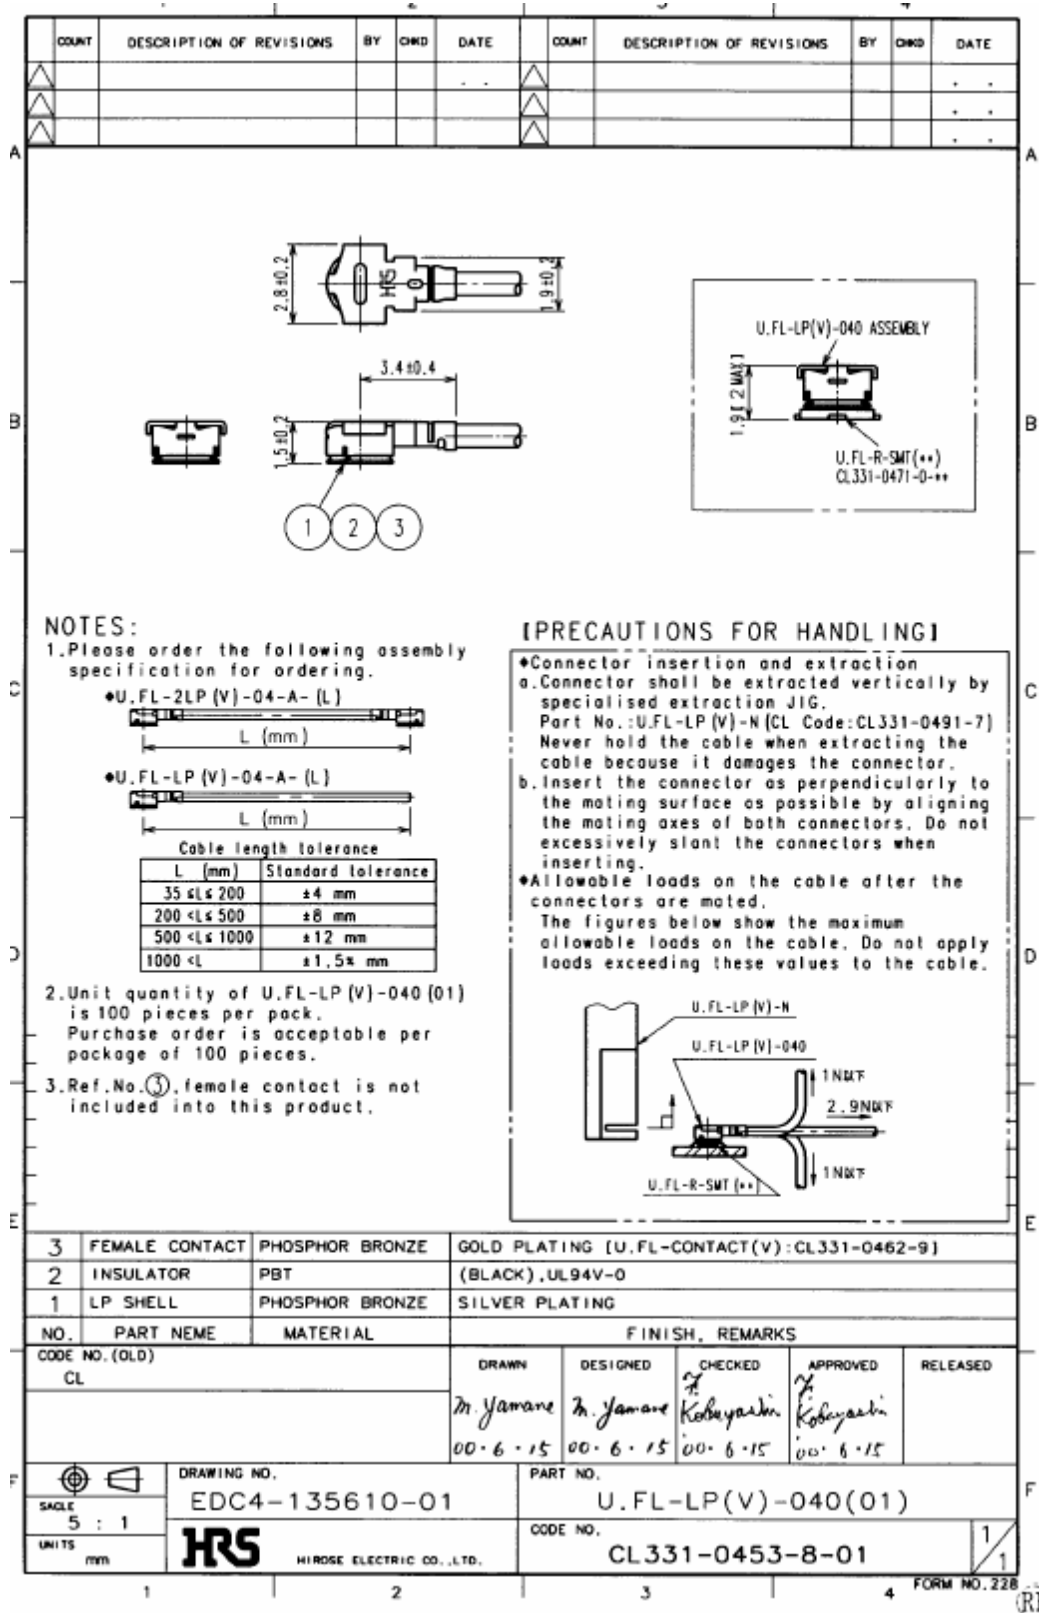

Figure 35: Specifications of U.FL-LP-(V)-040(01) plug
In addition to the connectors illustrated above, the U.FL-LP-(V)-040(01) version is offered as an extremely space saving solution. This plug is intended for use with extra fine cable (up to $\varnothing 0.81\text{mm}$) and minimizes the mating height to 2mm. See Figure 35 which shows the Hirose datasheet.